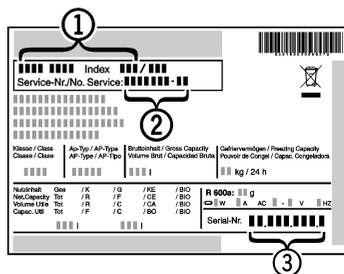

Fig. 9
- Read the appliance designation *Fig. 9 (1)*, service No. *Fig. 9 (2)* and serial No. *Fig. 9 (3)* off the type plate located inside the appliance on the left-hand side.
- Notify the customer service, specifying the fault, appliance designation *Fig. 9 (1)*, service No. *Fig. 9 (2)* and serial No. *Fig. 9 (3)*.